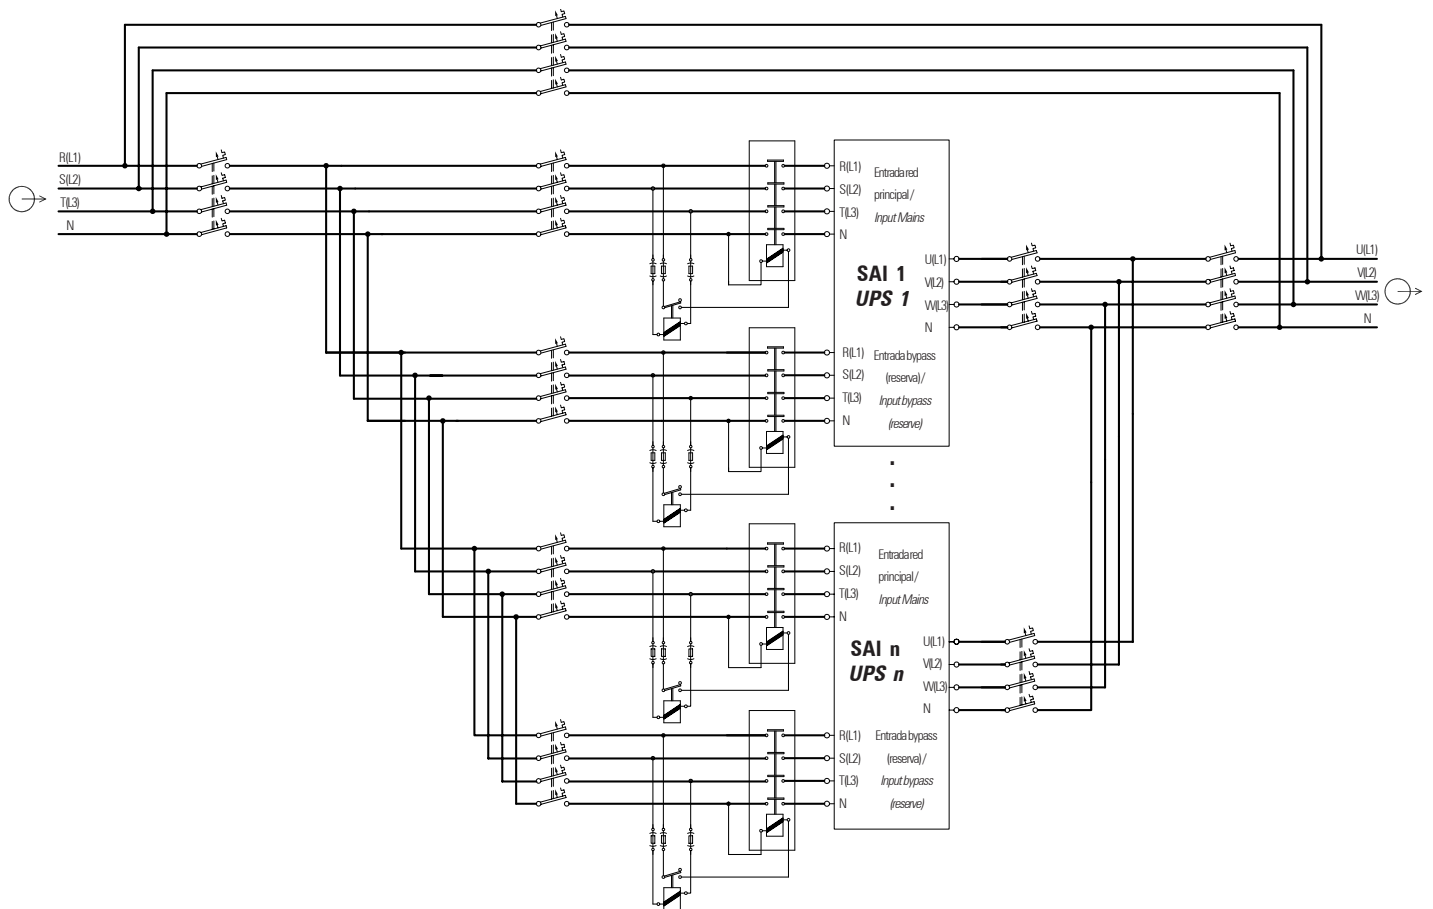

Fig.1.1
2.5.- Parar ambos equipos, abriendo todos sus interruptores. (Fig.1.1).
2.5- Disactivate both the UPS by opening both the reserve and output switches.(Fig.1.1).